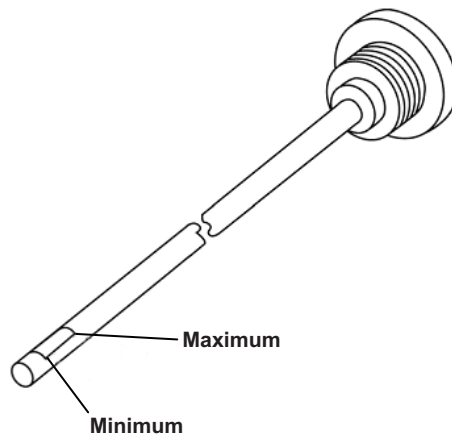

Figure 2-12. Dipstick Indent
- c. Visually check the compressor oil dipstick to verify the amount of oil in the crankcase. Remove the dipstick, wipe it with a clean, lint-free rag and reinsert, fully threading it in to obtain a proper oil level reading. Remove the dipstick and ensure that the oil level is within the minimum and maximum indents (figure 2-12) on the dipstick. If the oil level is incorrect, add or remove oil IAW PMCS (Chapter 4).